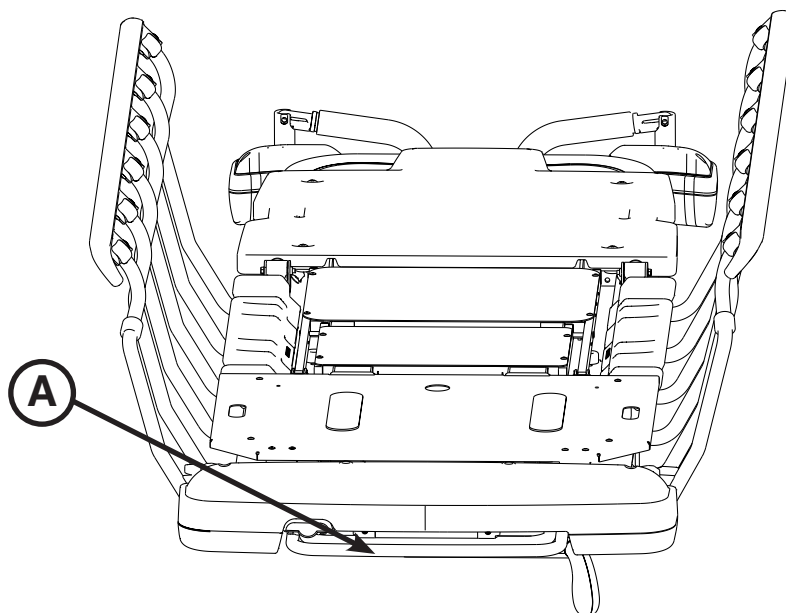

Figure 30: Pump Rack
The pump rack (A) can be used for the storage and transportation of stretcher equipment as shown in Figure 30.